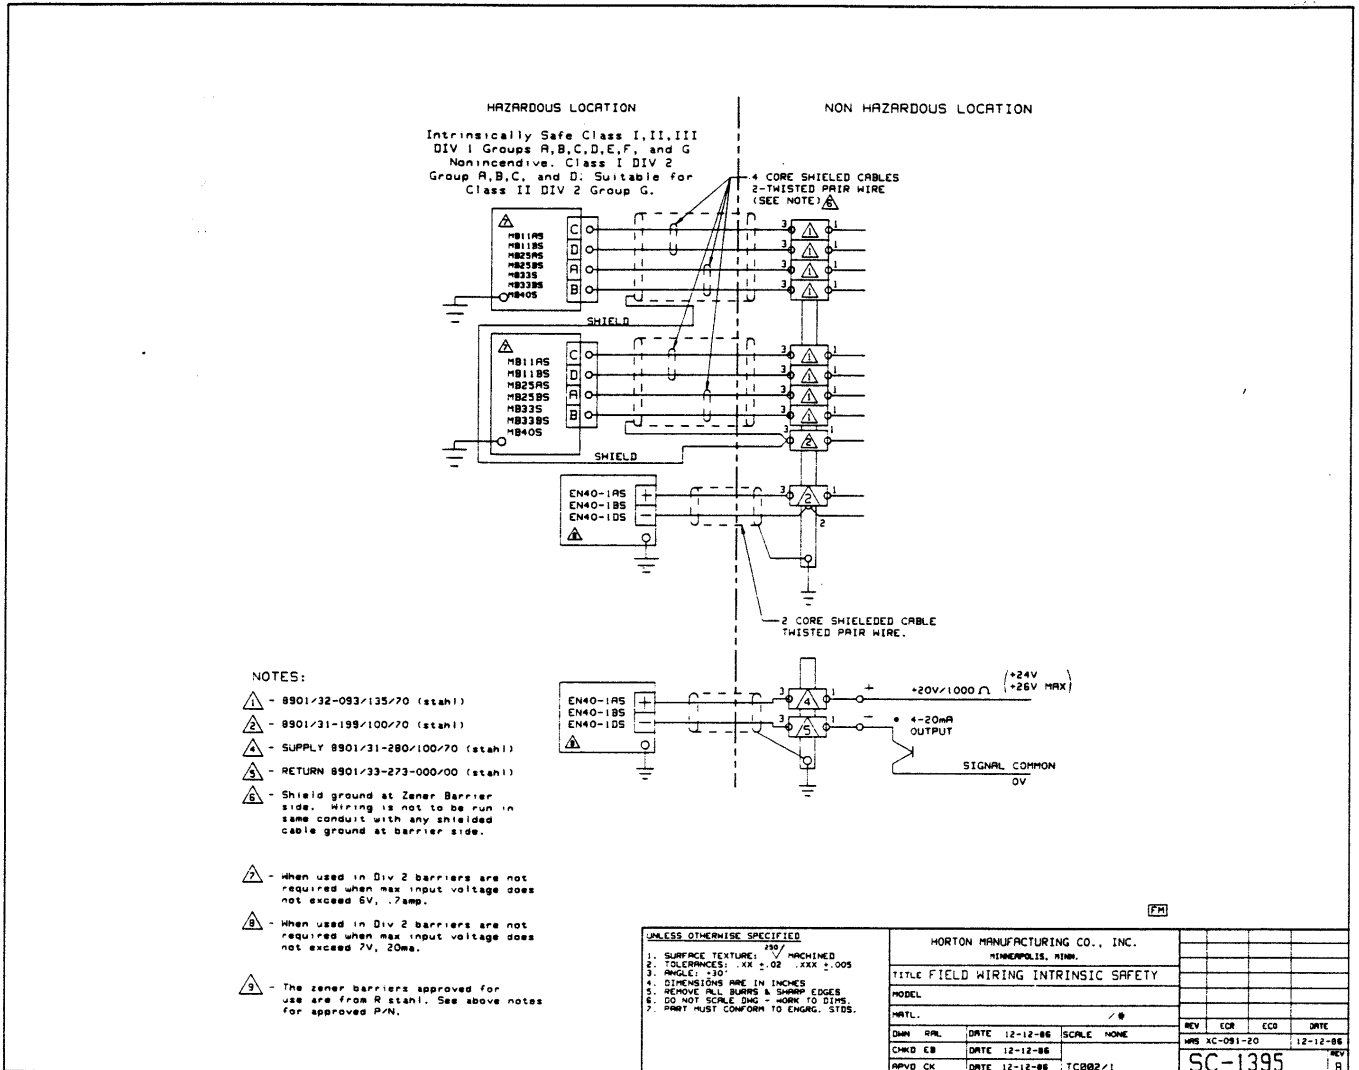

FIGURE 9
components are used to build a tension control system for hazardous areas, as certified by Factory Mutual (FM) to meet requirements for Intrinsically Safe Class I, II, and III, Division 1, Groups A, B, C, D, E, F, and G. Nonincendive Class II, Division 2, Group G, when connected per Horton Drawing SC-1395 (See Fig. 9).